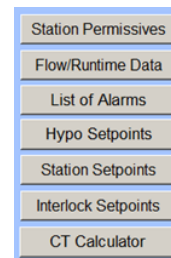

Figure 9 – Right-hand side Navigation Buttons
**Navigation Buttons:** Buttons to bring up pop-up windows for the stations' pop-up windows, not associated with specific devices or analog measurements, are located on the right side of the screen. A standardized ordering and labelling of these buttons is used. User-based security is used to ensure that certain buttons only work when a user with appropriate permissions has logged into the HMI. See Figure 9.